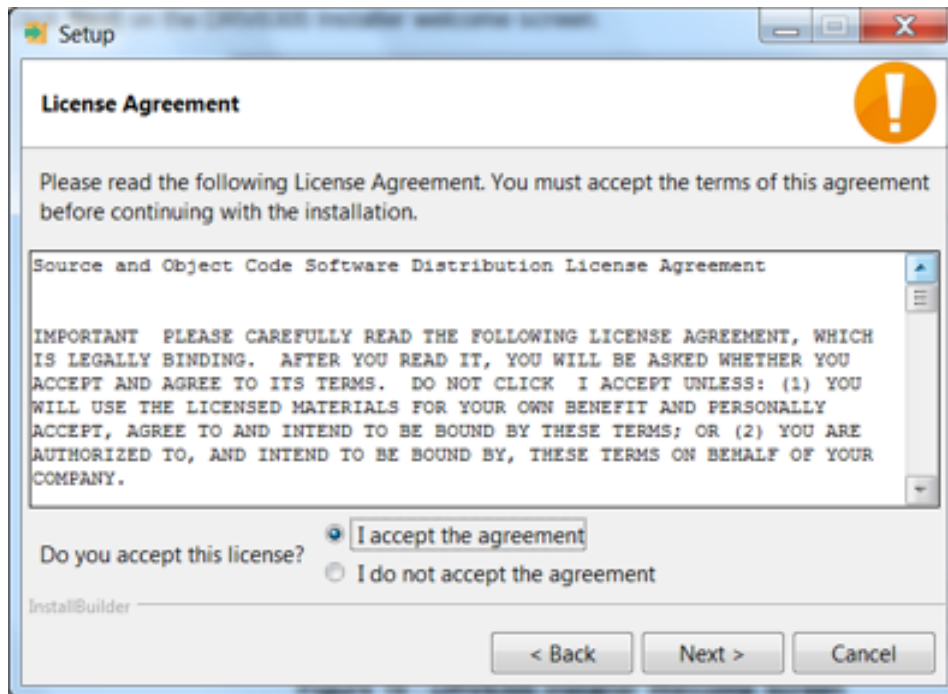

Figure 16. DRV835XX Software License Agreement
- Step 4. Read though and accept the license agreement to proceed with the installation (see Figure 16).